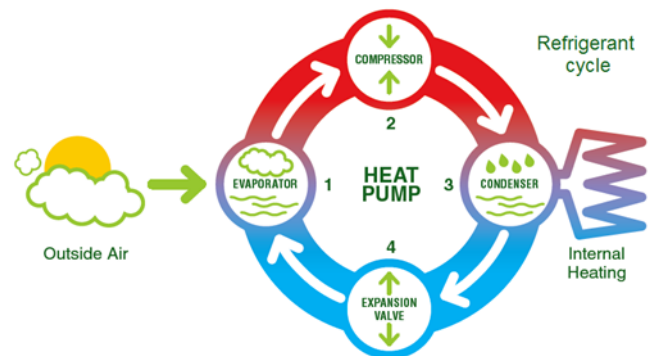

Figure 1: Refrigeration Cycle
The operation of the heat pump is shown in figure 1 below. A heat pump works on the same principle as a fridge using a refrigerant fluid which boils at a low temperature. Free energy is taken from the air to boil the refrigerant in the evaporator coil (1), changing it from a liquid to a vapour. This low grade heat is upgraded by the compressor (2) increasing its pressure, and consequently its temperature, to a useful high temperature. The heat is transferred to your heating system by the condenser (3), where the refrigerant becomes liquid once again. The liquid refrigerant is then expanded using an expansion valve to a low pressure fluid before repeating the cycle. 60-80% of the heat generated by the heat pump comes from the free energy taken from the air, compared to 20-40% generated by the electricity used to power the heat pump.